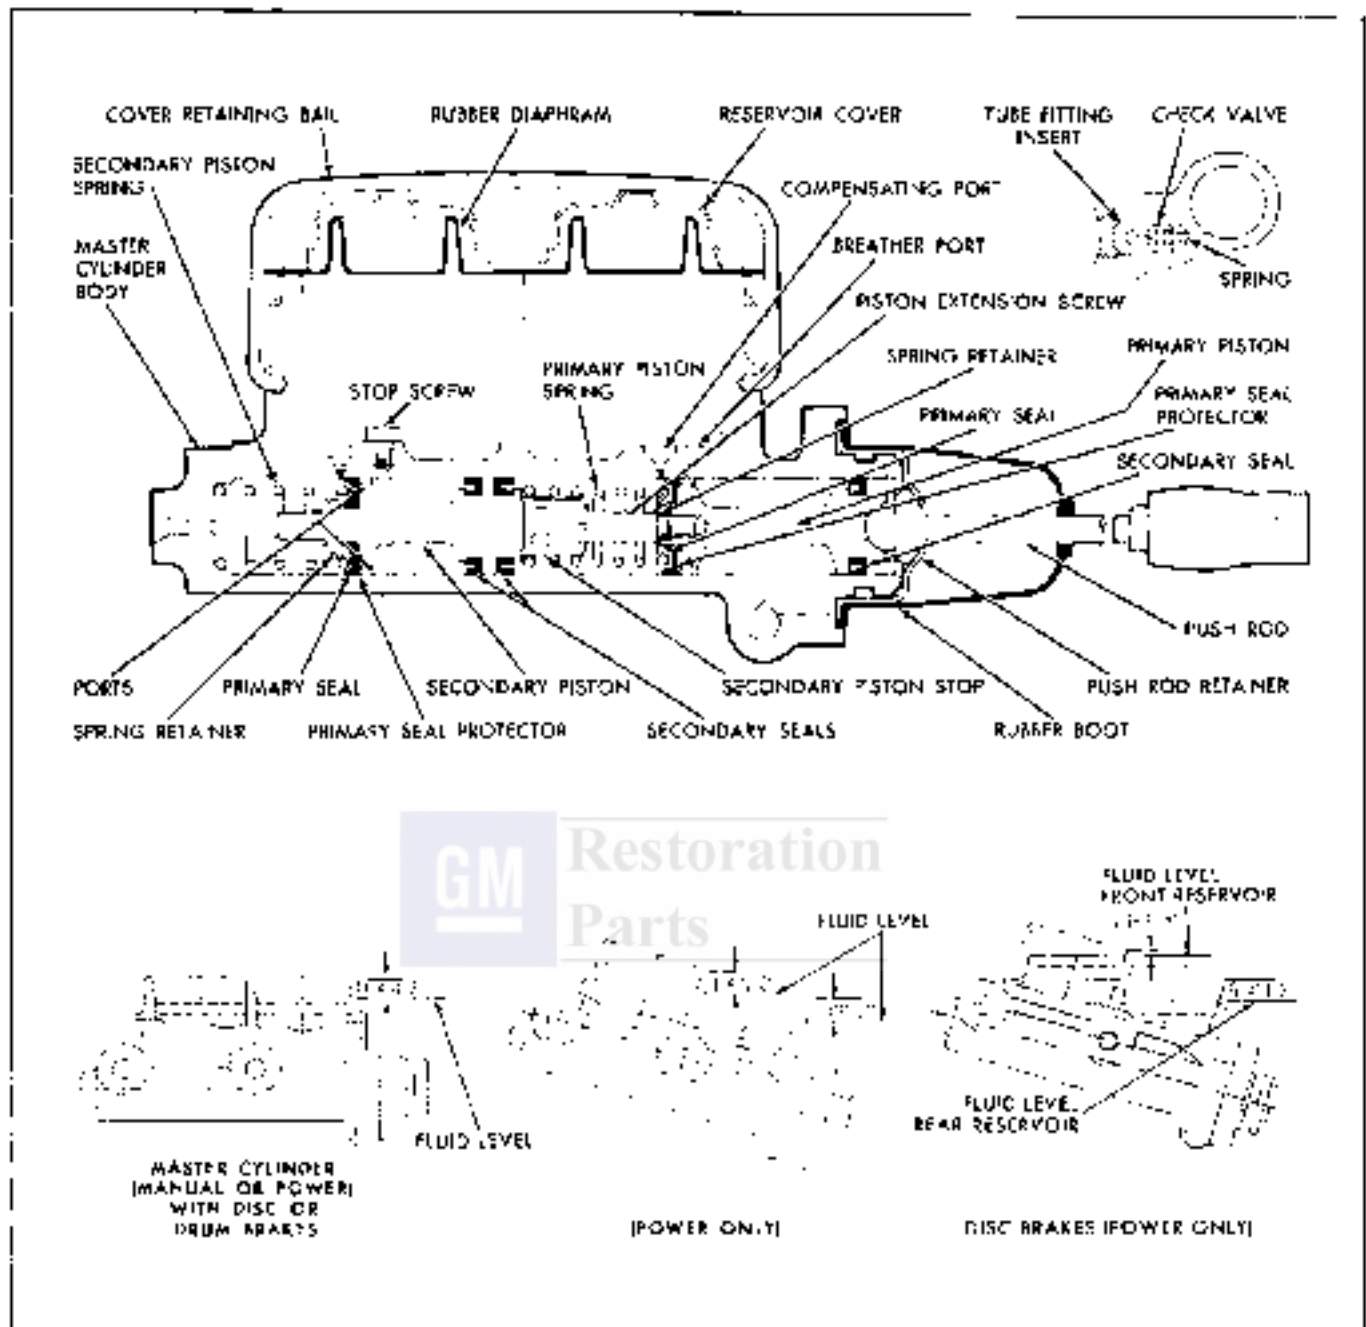

Fig. 5-6 Fluid Levels and Master Cylinder Details
1. Check fluid level in master cylinder. The level should be within $1/2$ inch from top of reservoir, Fig. 5-6.